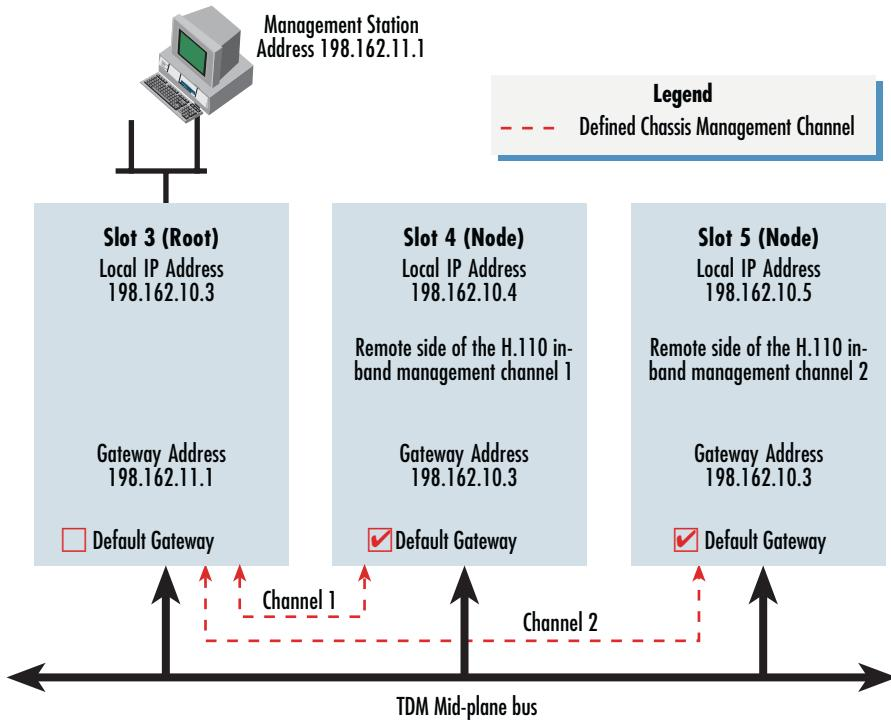

Figure 94. Default gateway address example
Figure 94 illustrates when the *Default Gateway* box is normally checked. The diagram shows the management station accessing the chassis via the front panel Ethernet port of a T-DAC card, however just as easily the connection could be a T1/E1 management channel discussed earlier in this chapter.
In the discussion of this example of Chassis Management Channels, call the gateway T-DAC *Root* and non-gateway T-DACS *Nodes*. Assume the gateway T-DAC resides in slot 3, with additional T-DACS in slots 4 and 5 (see figure 94). With this configuration, define the default gateway parameters as follows:
- The *Root* T-DAC in slot 3 functions as the in-band management gateway for the T-DACS in slots 4 and 5. *Do not* check the *Default Gateway* box (see figure 94).
- The *Node* T-DAC in slot 4 will connect via a Chassis Management Channel to the *Root* T-DAC in slot 3. Checking the *Default Gateway* box in the slot-4 *Node* T-DAC automatically adds the IP address of the slot-3 master T-DAC to its IP routing table as the default gateway. *Do* check the *Default Gateway* box (see figure 94).
- The *Node* T-DAC in slot 5 similarly connects to the *Root* T-DAC in slot 5 via a Chassis Management Channel. Checking the *Default Gateway* box in the slot-5 *Node* T-DAC automatically adds the IP address of the slot-3 master T-DAC to its IP routing table as the default gateway. *Do* check the *Default Gateway* box (see figure 94).